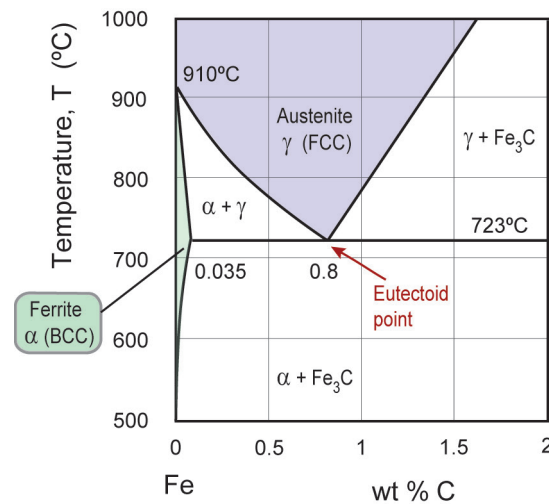

Figure 5: Expanded view of part of the Fe-C phase diagram, showing the eutectoid point.
11. Use Figure 5 to answer the following: